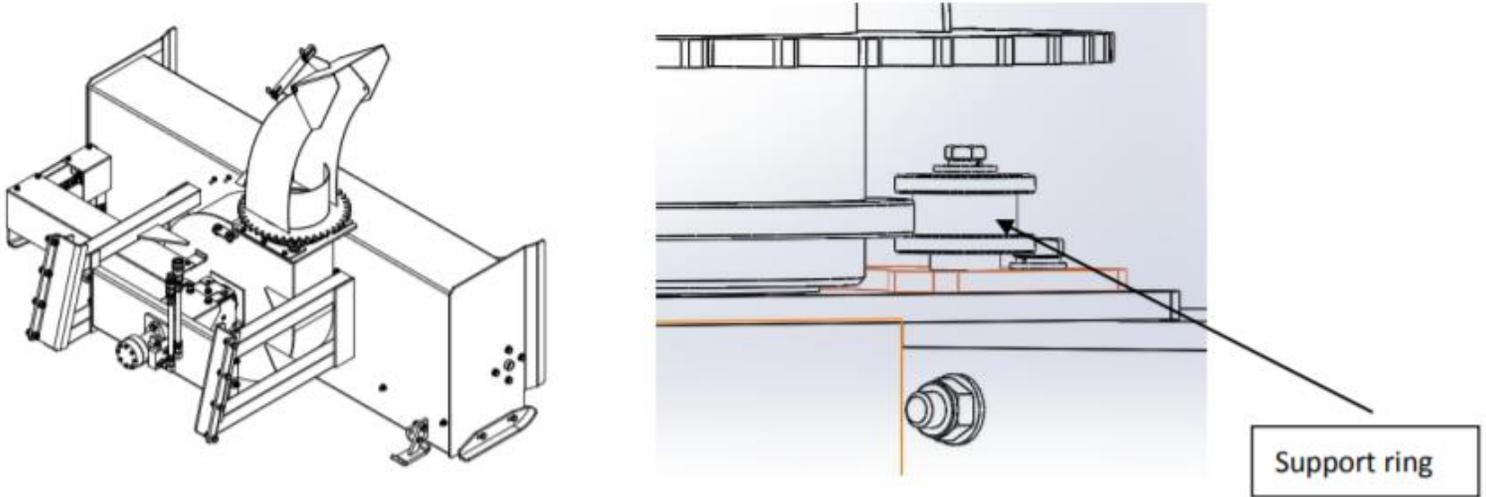

FIGURE 7: Discharge Chute Assembly, Snow Spray Mask Assembly, and Fittings 2
- Install above components onto the snow blower as Figure 7